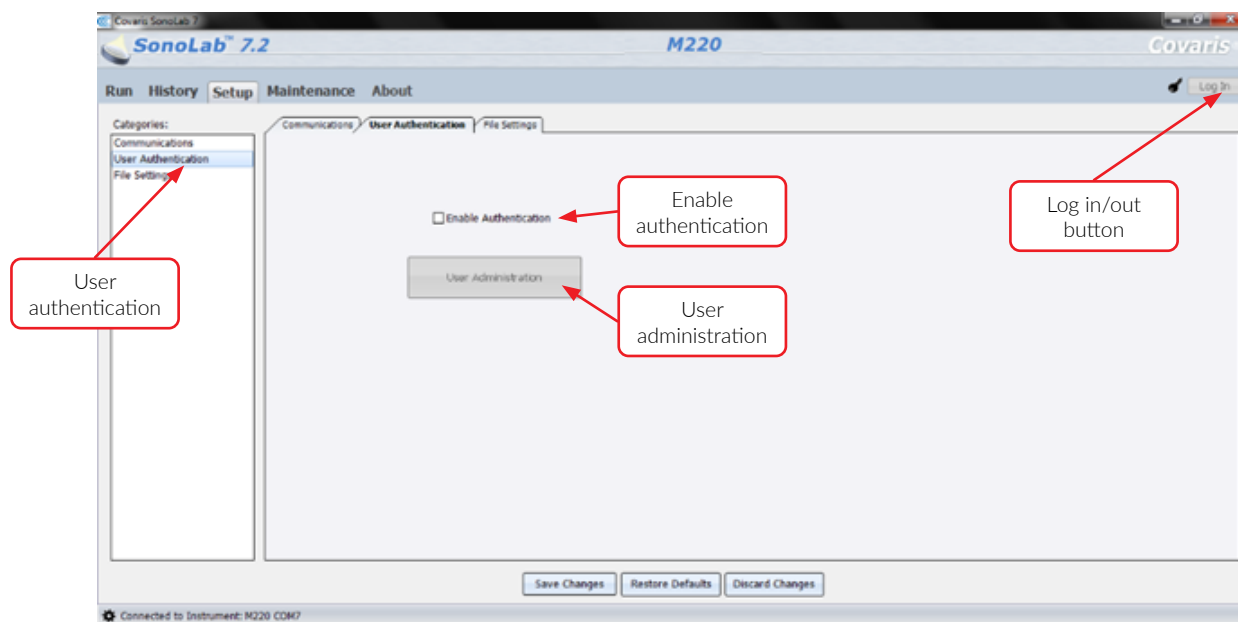

Figure 6.5 The User Authentication Tab
By selecting the User Authentication tab or category (See **Figure 6.5**), user can establish 3 levels of users and identify the user by means of a log in/out format.
- Click on the Enable Authentication (See **Figure 6.5**) check box. Enter user name admin and password SonoLab. Click OK to log in. Once logged in, an Administrator may change this password or create an alternate administrator-level user.
- Click the Log In button (See **Figure 6.5**). Enter the username and password provided by Administrator.
- Click the “User Administration” button (See **Figure 6.5**)